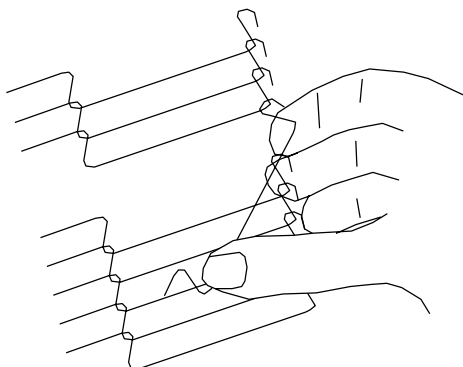

Figure 4-27.
3. Remove the outside master links on the right and left sides of the conveyor belt as shown in Figure 4-27.